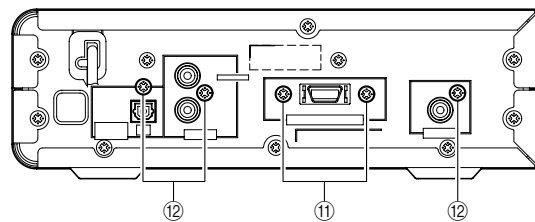

Fig. 6
- Remove 3 (K, A, L, V models) / 5 (B model) screws (⑫). (Fig. 6)
- ⑪のネジ2本を外します。(Fig. 6)